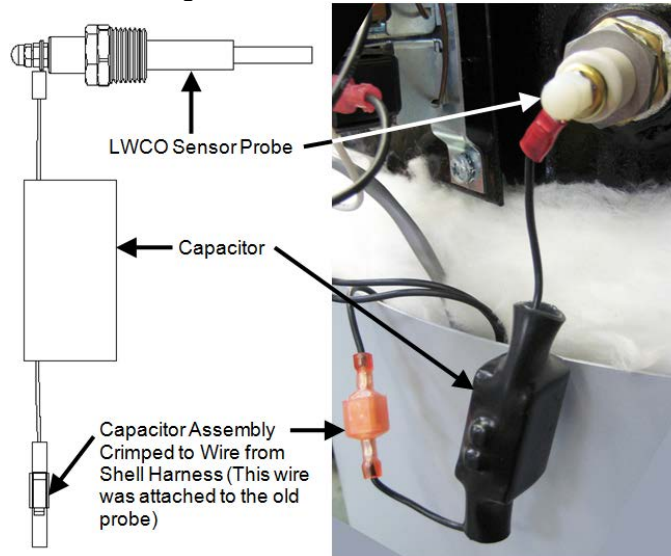

Figure 13. LWCO Capacitor Kit Connections
4. Next, cut old lug from wire (removed earlier from probe tip) and crimp onto the male crimp of capacitor assembly. If replacing a probe which already has the capacitor assembly attached, then there is already a male crimp instead of a lug and it may simply be inserted into the female crimp on the new probe/capacitor assembly. The finished capacitor assembly should resemble Figure 13.